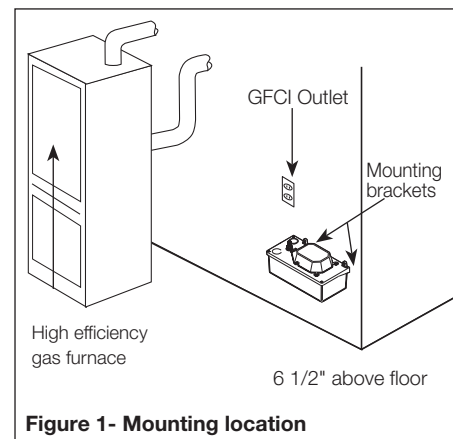

Figure 1 - Mounting location
- B. The pump can be installed to the wall or side of the appliance using the two mounting brackets. Refer to Figure 1.